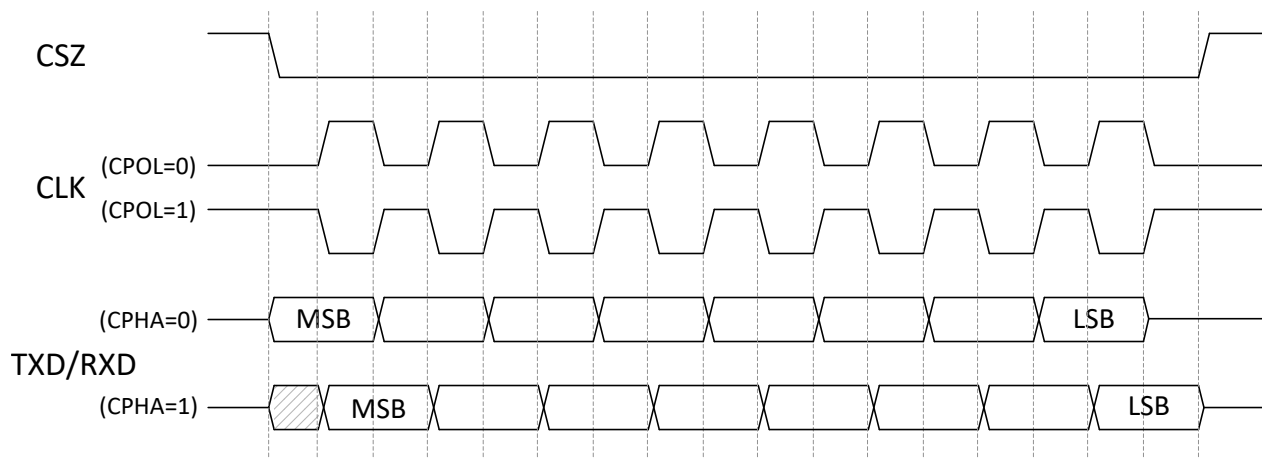

Figure 6-16. Timing Diagram for SPI Clocking Modes
- (1) The DLPC7540 SPI interfaces support SPI Modes 0, 1, 2, and 3 (that is, both clock polarities and both clock phases) as shown in Table 6-2 and Figure 6-16. As such, each SPI interface configuration must be setup to match the SPI mode being used.